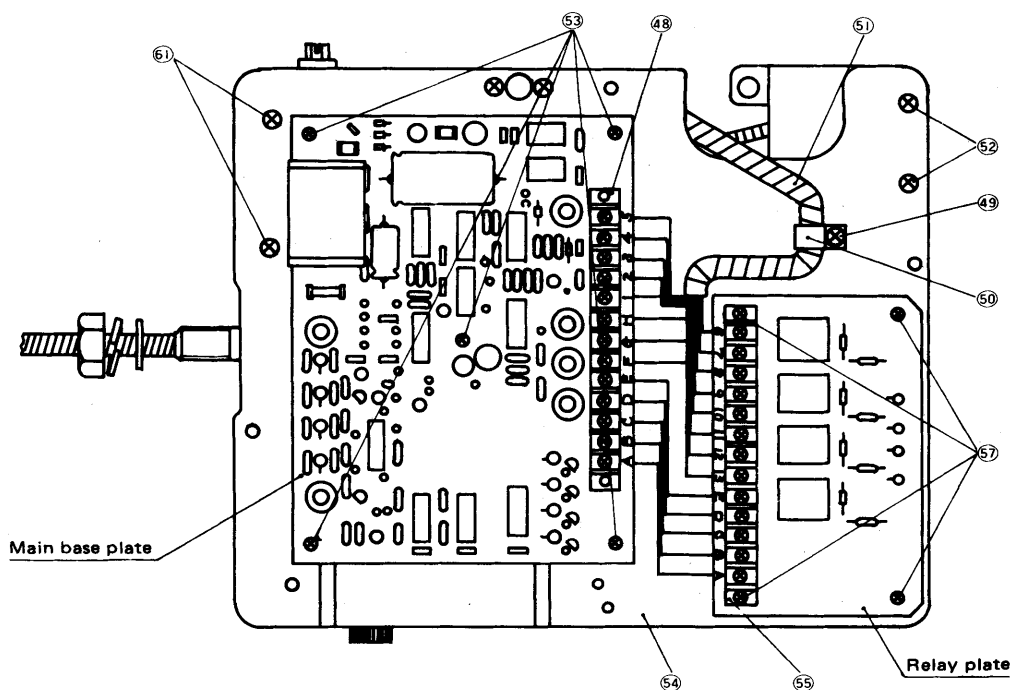
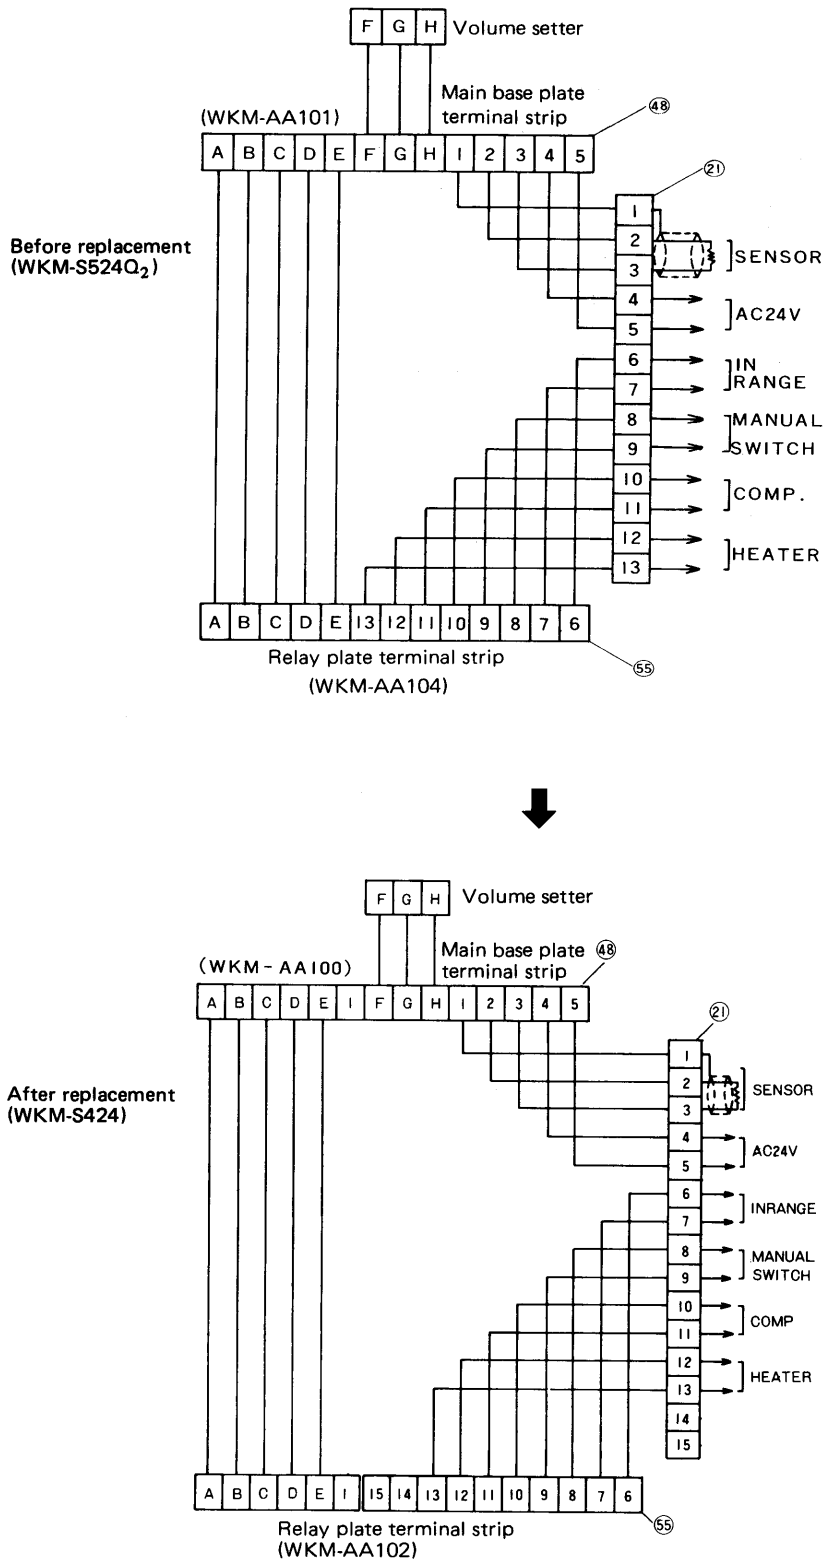

Fig. 4 Internal device assembly
Fig. 8 Internal wiring diagram
- (2) Remove the internal device assembly. Loosen four hexagnal nuts (11) and screws (46) and remove the internal device assembly from the main body (1) and turn it back. Then it looks as shown in Fig. 4.
- Adjust the volume setter as shown in Fig. 4 in accordance with Article 4.1.
- Remove the lead wires (3 pcs, F. G. H.) which are laid from the volume setter from the terminal (48) (13P) on the terminal strip of the main base plate and measure resistance between G and H of the lead wires.
- From the state of the volume setter as shown in Fig. 4, loosen screw (49), remove power source plug (50), remove the spiral tube (51) from the wires. Then remove two screw bolts (52) and the volume setter can be removed from the base (54).
- Adjust the volume setter as shown in Fig. 4 in accordance with Article 4.2.
- Remove the wires (13 pcs Nos A ~ H, 1 ~ 5) from the terminal strip (48) on the main base plate.
- Remove 5 screws (53) to remove the base (54) from the main base plate, so replace it with new one (WKM-AA100)
- Attach a new main base plate to the base (54).
- Provide the wiring among the terminal strip (48) of the main base plate, the terminal strip (55) of the volume set, relay base plate and the terminal strip (21) of the relays. It is, however, not necessary to provide the wiring to the terminal "1" of the main base plate. Lay the piping in accordance with Fig. 8, Internal wiring diagram.
- Remove the lead wire (104) between the terminal Nos. 6 and 8 on the terminal strip for relays (21).
- Connect the lead wire (104) which is connected to the terminal No. 8 to 6 so that the terminals between 6 and 12 are connected.
- Additionally provide a short wire (124) between 7 and 8.
- Adjust it as shown in Fig. 4 in accordance with Article 4.2.
- Remove the wires (13 pcs No. A ~ E, 6 ~ 13) from the terminal strip (55) on the relay base plate.
- Loosen four screws (57), and the relay base plate can be removed from the base (54). So replace the relay base plate with a new one (WKM-AA102).
- Attach a new relay base plate to the base (54).
- Provide the wiring among the terminal strip (55) for the relay base plate, the terminal strip (48) for the main base plate and the terminal strip (21) for the relays. In this case, however, note that the existing terminals A, B, C, D and E between the terminal strips 48 and 45 have short lead wires. Namely prepare longer lead wires (Approx. 14cm) and then provide the wiring. It is not necessary to provide the wiring to the Terminal on the terminal strips (48) and (55) and terminal nos. 14 and 15 on the terminal strips 21 and 25. Provide the wiring in accordance with Fig. 8 "Internal wiring diagram".
**Note:** Lay the wiring correctly in accordance with Fig. 8